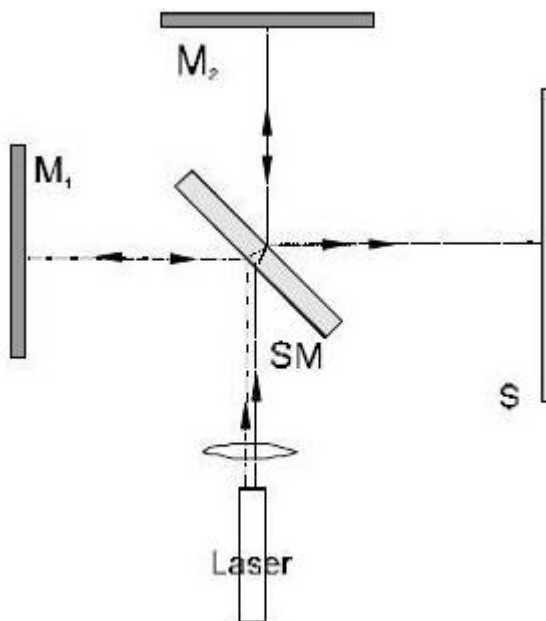

Fig. 2 Experimental set-up Michelson's interferometer. (M1, M2 = mirrors, SM = semitransparent mirror, S = ground screen)
- Position the laser half way along the longer side of the metal board (Fig. 2) and adjust the laser beam parallel to the ground plate (see Notes).
- Position the semi-transparent mirror between the laser and mirror M2 as shown in Figure 2. The angle between the semi-transparent mirror plane and the axis of the laser beam should be  $45^\circ$ . Correct positioning is vital.
- Position the ground screen as shown in Figure 2, on the shorter side of the board. The beam spot should appear in the centre of the screen.
By adjusting the set up according to Figure 2 it is very important that the interfering spherical waves are containing only a small angle (see Figure 3a), then we can observe the interference in the area I. If the spherical waves contain too big an angle (Figure 3b) the interference can not be observed. Therefore it is important to adjust the laser beam parallel to the ground plate and try to keep it parallel after reflection from mirrors M1 and M2.